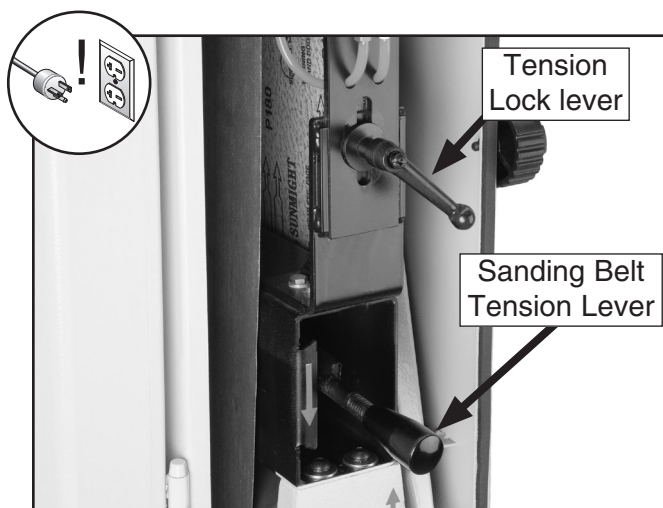

Figure 18. Sanding belt tension controls.
3. Loosen the tension lock lever shown in **Figure 18**.